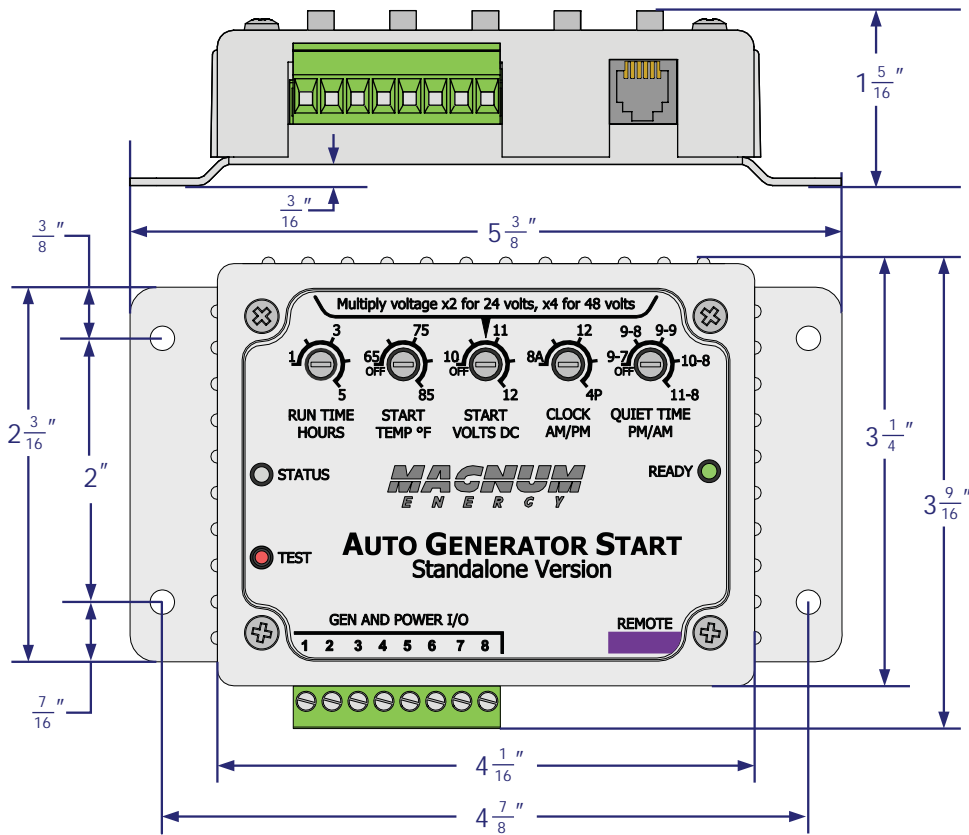

Figure 2-2, Controller Dimensions
1. Select a location that is clean, dry, and protected from extreme temperatures to mount the controller. Wiring is much easier if the controller is mounted within easy access to the generator's remote switch wiring. Refer to Figure 2-2 for the controller dimensions.